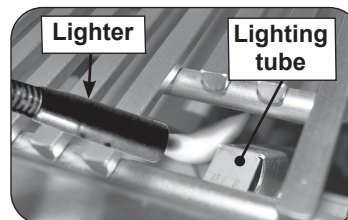

Fig. 31-2 Manual lighting via lighting tube
**CAUTION:** Always wait five (5) minutes for gas to clear after any unsuccessful lighting attempt.
2. Insert either a burning long-barrel butane lighter or a burning long-stem match through the cooking grid opening to the top of the lighting tube (see Fig. 31-2). For back burners, power burners, or infrared burners, hold the flame against the surface of the back burner/power burner/infrared burner.